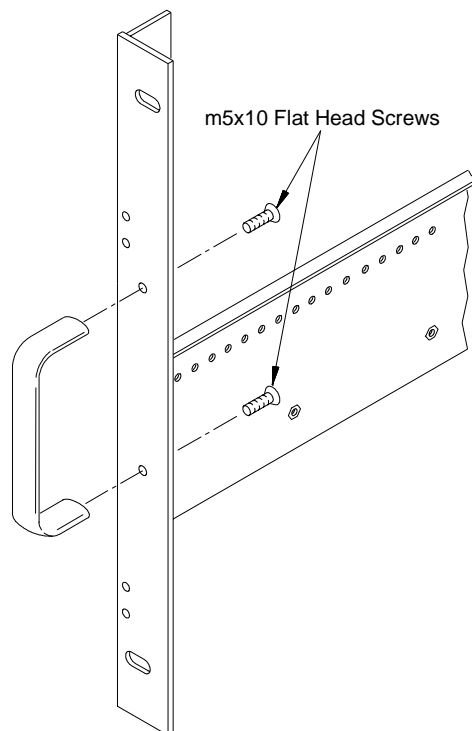

Figure 2-1. Attaching Handles to the Adapters (Option 923 - kit p/n E8400-80923).
1. Attach the handles to the adapters using the m5x10 flat head screws (Figure 2-1). Handles are included only with the HP E840xA Standard adapters (Option 923).